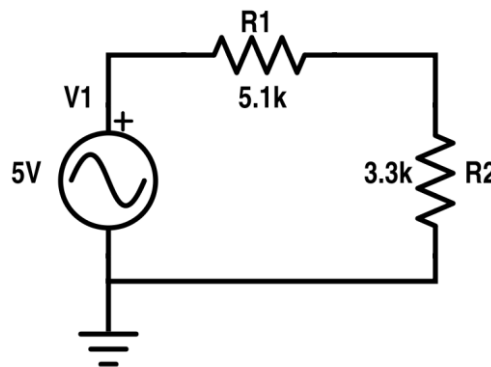

Figure 6: Circuit ‘A’
2. Build circuit ‘A’ shown below in Figure 6.